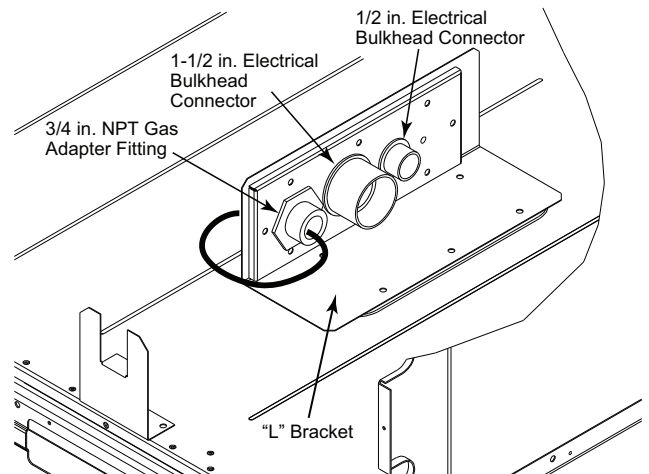

Fig. 16 — Thru-Base Connection Fittings
This service connection kit consists of a 3/4-in. NPT gas adapter fitting (stainless steel), a 1/2-in. electrical bulkhead connector and a 1-1/2-in. electrical bulkhead connector, connected to an “L” bracket covering the embossed (raised) section of the unit basepan in the condenser section. See Fig. 16.
1. Remove the “L” bracket assembly from the unit (see Fig. 16).